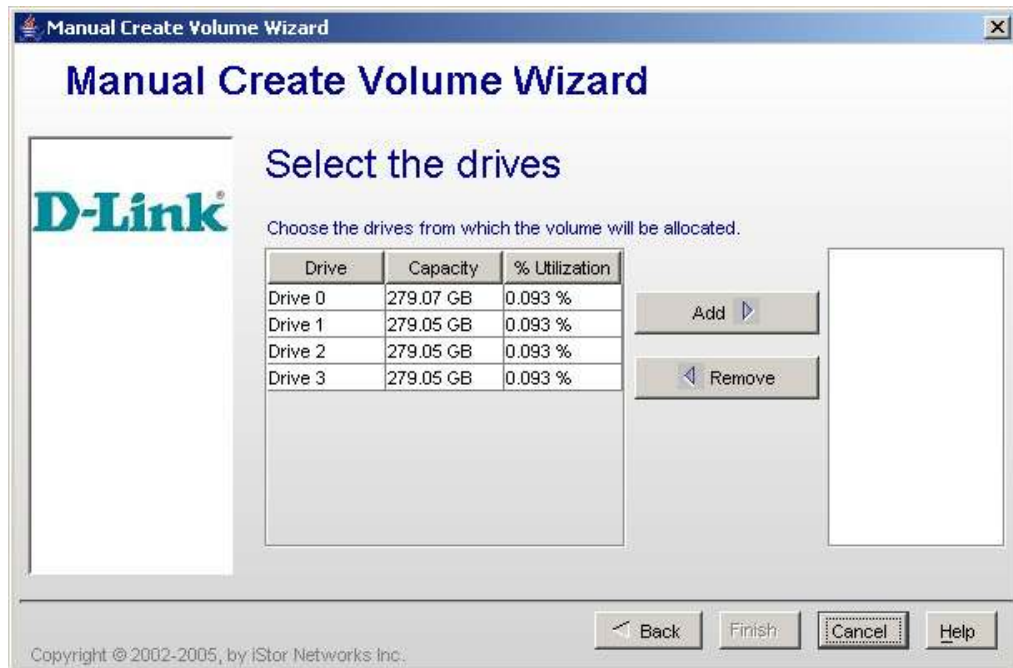

Figure 5-14 Manual Create Volume Wizard - Select the Drives Screen
7. Click the **Next** button. The Select the Drives screen appears (see Figure 5-14).